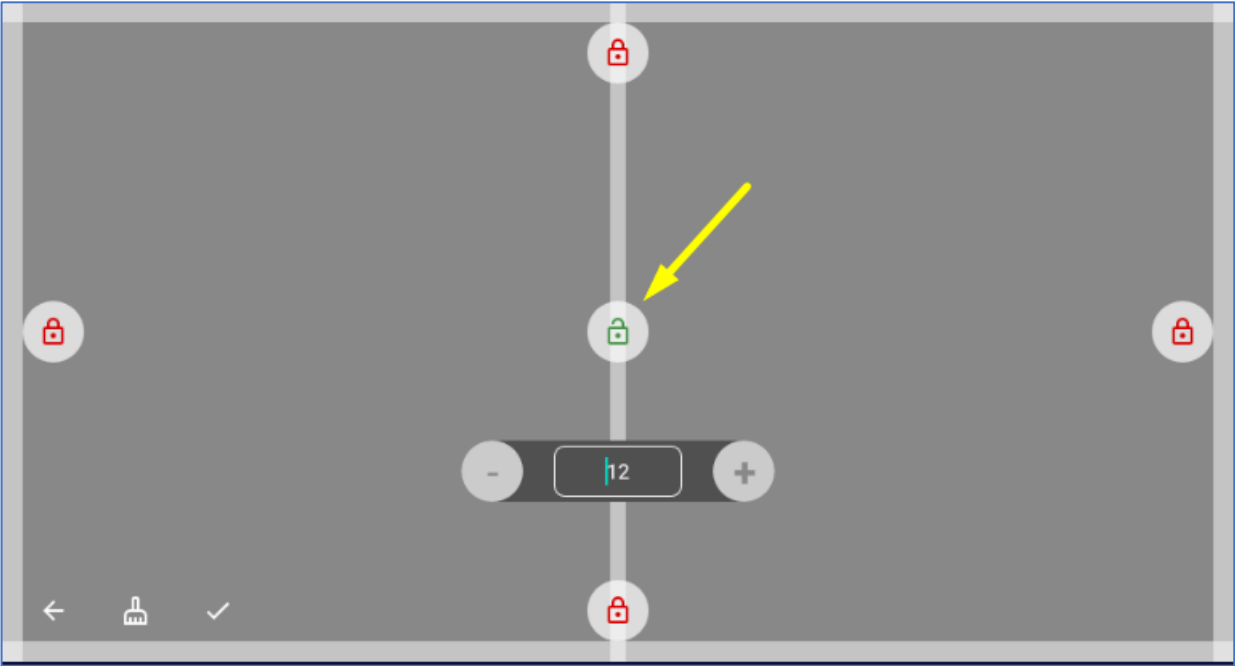

fig. 6.4. Selecting the indent
- Select one of the available indents. The selected indent becomes green (fig. 6.4).